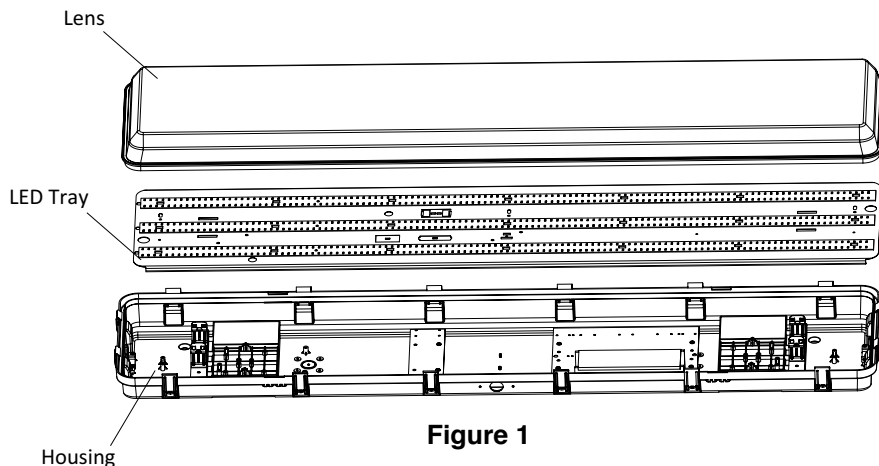

Figure 1
1. Remove the lens and the LED tray from the housing as shown in Figure 1.